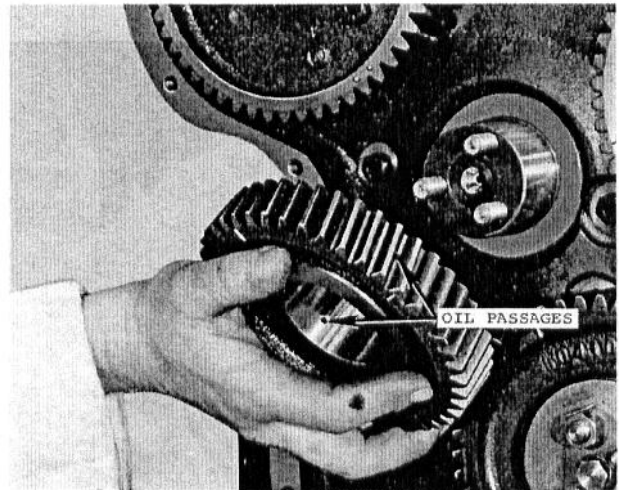
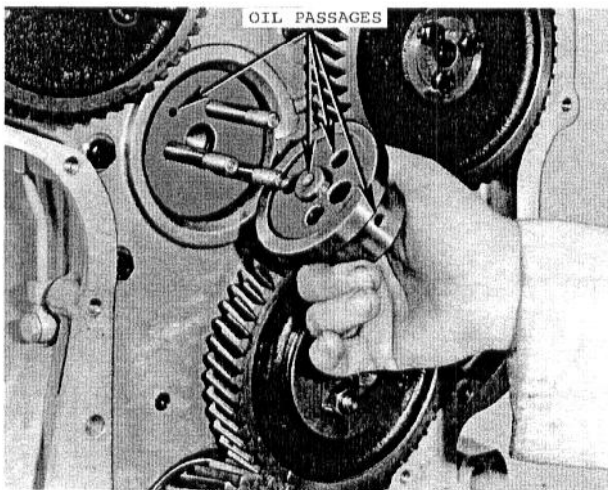

Fig. 18 - Removing or Installing Upper Idler Gear
Fig. 19 — Removing or Installing Upper Idler Gear Hub
3. Remove upper idler gear in a similar manner as shown in Fig. 18. Remove idler gear hubs as shown in Fig. 19.